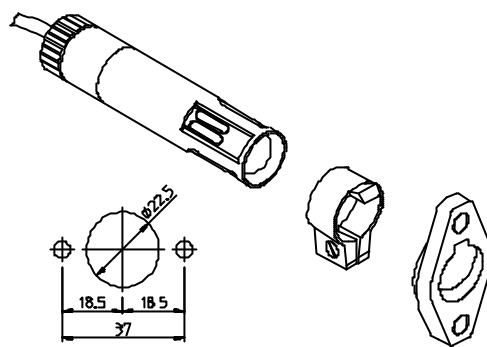

Fig.2
- **UV1** standard phototube (Fig.2);